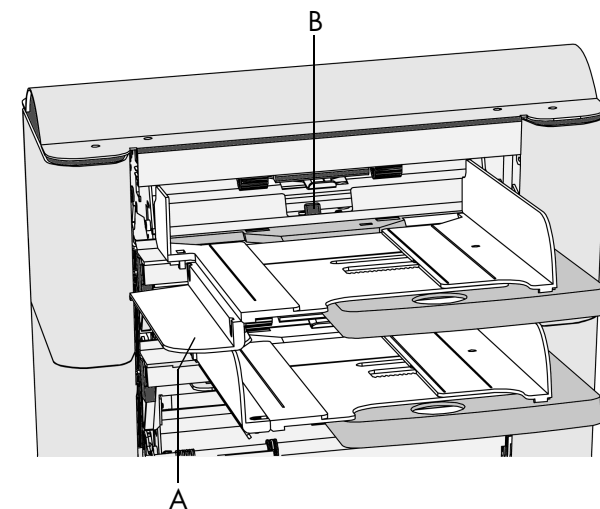

Fig. 28
- turn the left side guide A downwards (fig. 28).